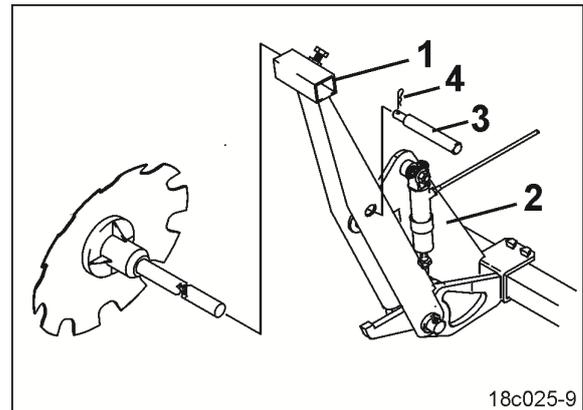

Fig. 203
3. Insert the track disc carrier (Fig. 203/1) on the transport bracket (Fig. 203/2), and secure with a pin (Fig. 203/3).
4. Secure the pin (Fig. 203/3) with spring cotter pins (Fig. 203/4).